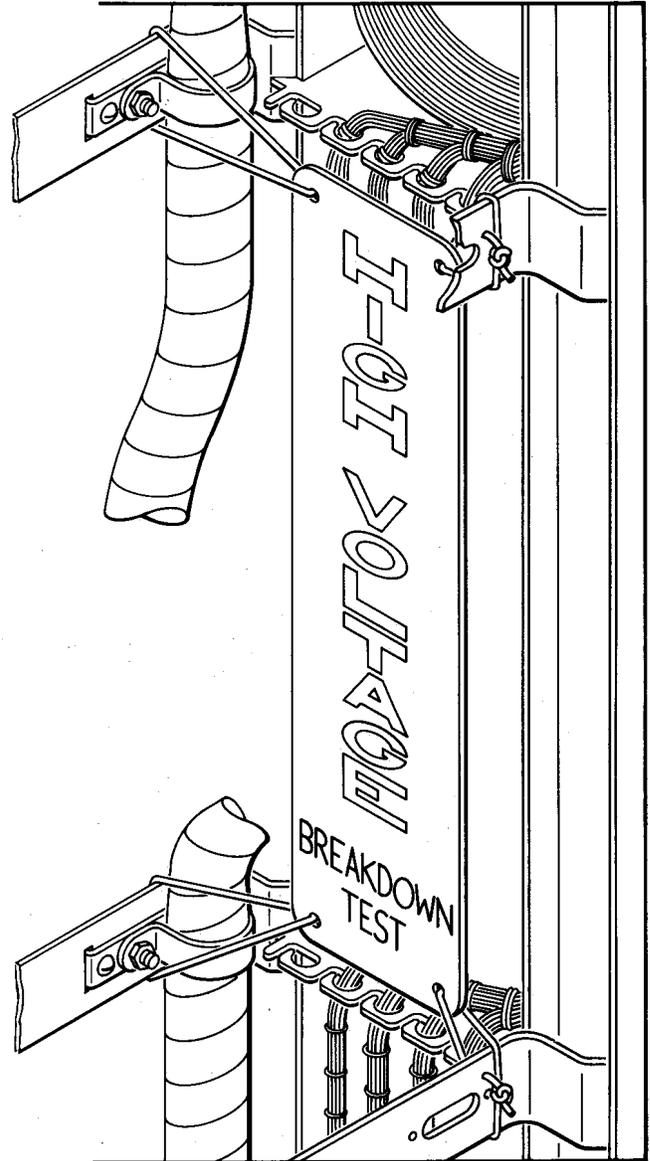

Fig. 7—E Warning Sign Installed on Backside of 302-Type Connector (Installed Similarly on 308-Type Connector)
3.03 The ***E warning sign (AT-8325)*** is furnished with cords for securing it to the back of the 302- or 308-type connector as shown in Fig. 7. The cords may be tied around the wiring horns, cross arm supports, cable stubs, ground bars, or through fanning strip holes, whichever is most readily accessible. The combined use of the E warning sign and the E warning marker reduces the danger of exposure to high voltage by identifying both sides of the connector.